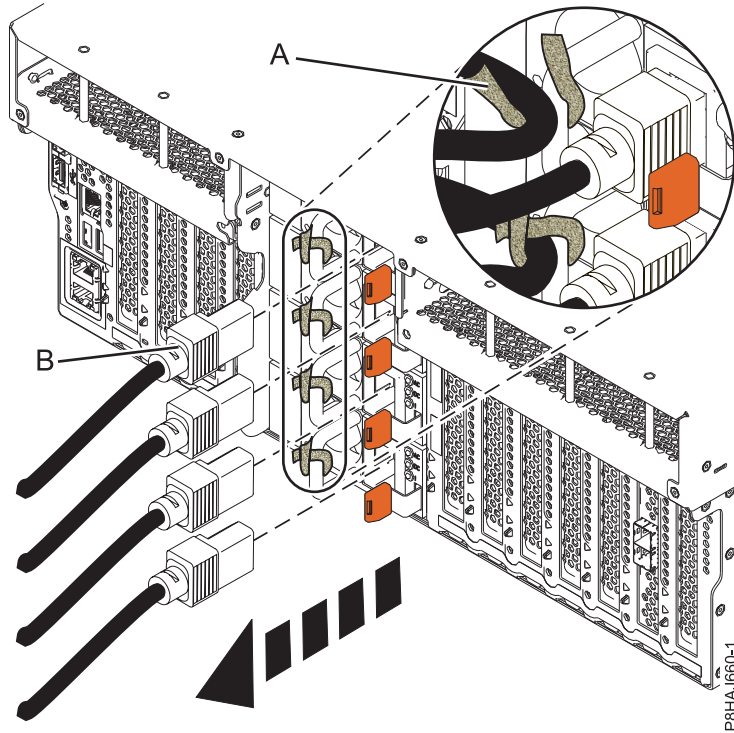
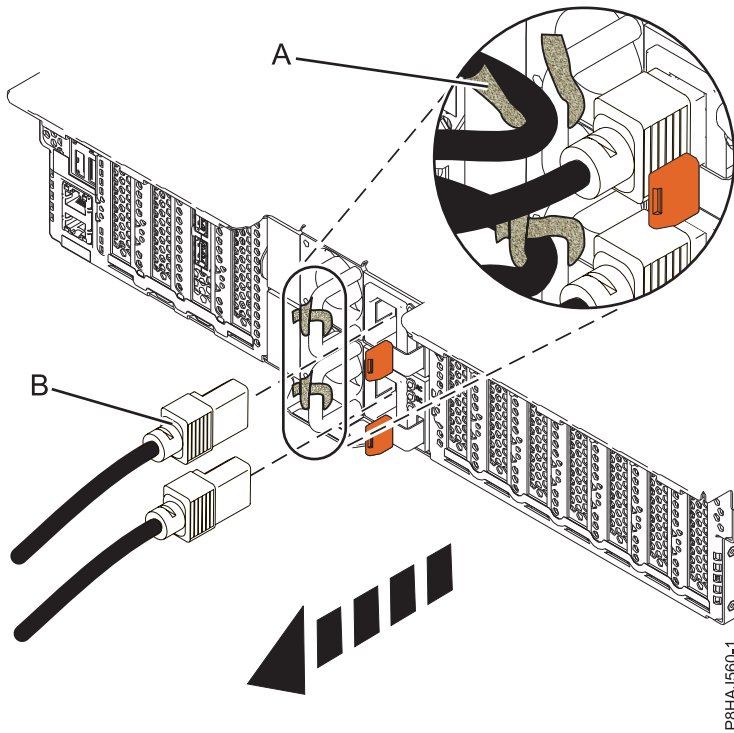
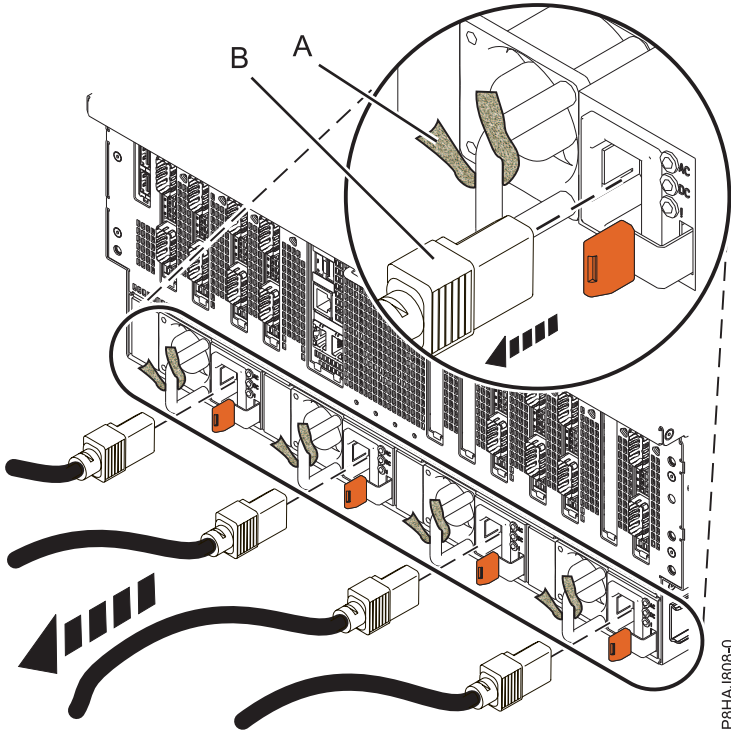

Figure 32. Removing the power cords from an 8247-42L, 8286-41A, or 8286-42A system
Figure 33. Removing the power cords from an 8247-21L, 8247-22L, or 8284-22A system
Figure 34. Removing the power cords from an 8408-44E or 8408-E8E system
3. Disconnect the power cords (**B**) from the system unit. See Figure 32 on page 59, Figure 33 on page 59, or Figure 34 on page 60 or depending on the type of your system.